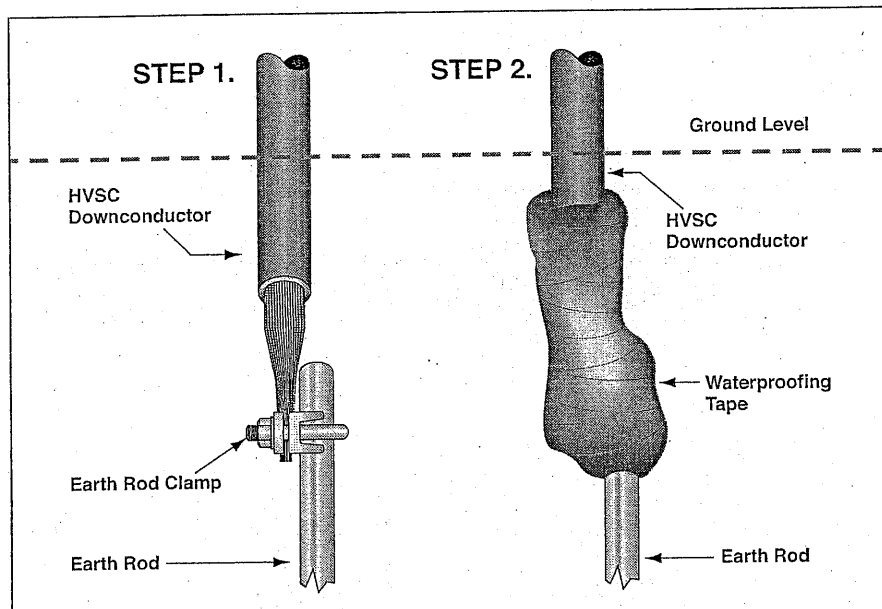

Figure 21.
5. Bunch together both inner and outer screen conductors. If connecting directly to the earth system as per figure 21, the bunched conductors should be connected to the earth rod clamp and the clamp tightened holding the conductors firmly in place. To avoid oxidisation of this connection, seal it using the waterproofing tape as provided in the kit.